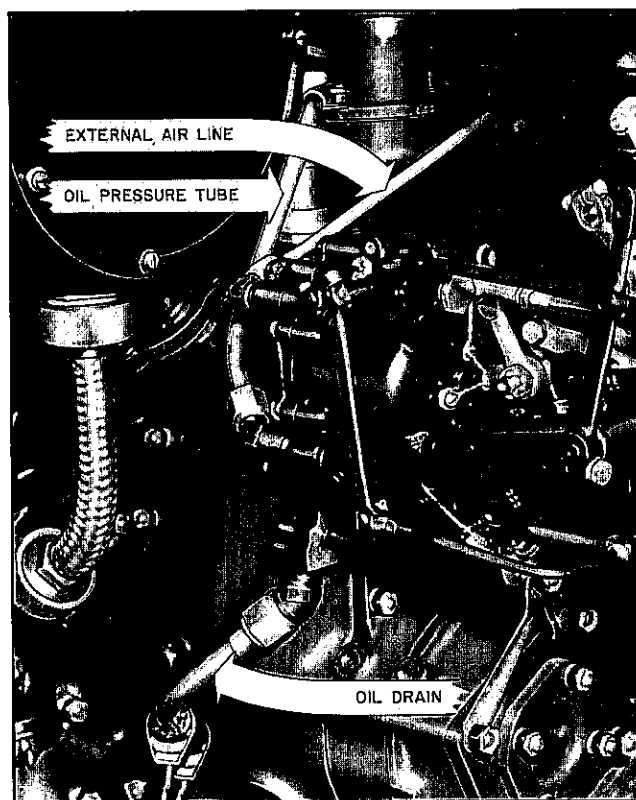

Figure 97—Type I Installation of Regulator
(9) The regulator main lever is next mounted on the serrated shaft which is located on the left side at the rear of the regulator lever support bracket. (See Fig. 97.) The main lever clamping bolt must be removed before the lever can be installed on the serrated shaft. Since the regulator main lever was left attached to the airplane throttle linkage when the replaced regulator was removed, the approximate main lever angular position on the serrated shaft can be determined by the following procedure.